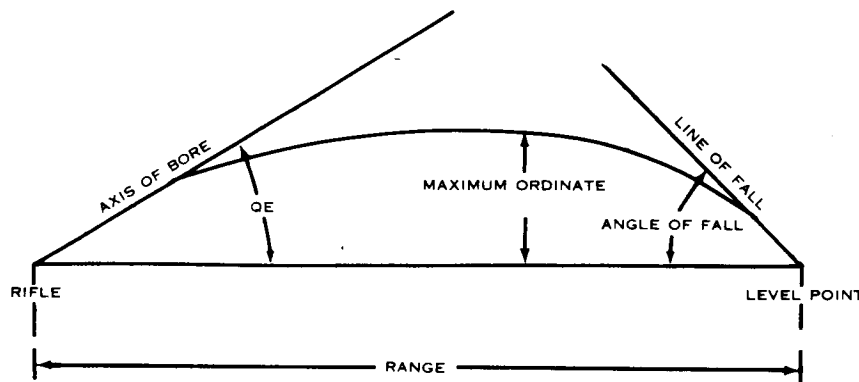

Figure 36. Elements of trajectory.
- (2) The 90mm rifle is classified as a flat trajectory weapon. The muzzle velocity and the weight of the projectile are the more important factors in determining the flatness of the trajectory. In all cases, however, due to the action of the force of gravity and air resistance, the trajectory of projectiles is actually a curve and not a straight line. Air resistance retards the projectile during its flight, causing the angle of fall to be greater than the angle of elevation. Therefore, the projectile reaches its maximum ordinate (highest point) closer to the point of impact than to the rifle (fig. 36).
- (3) A line tangent to the trajectory at the point of impact is called the *line of fall*. The vertical angle between the line of fall and the ground at the point of impact is called the *angle of fall*.